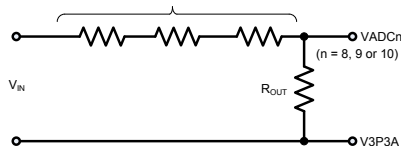
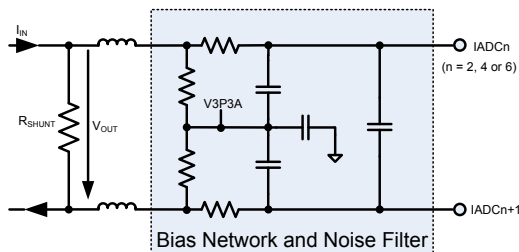
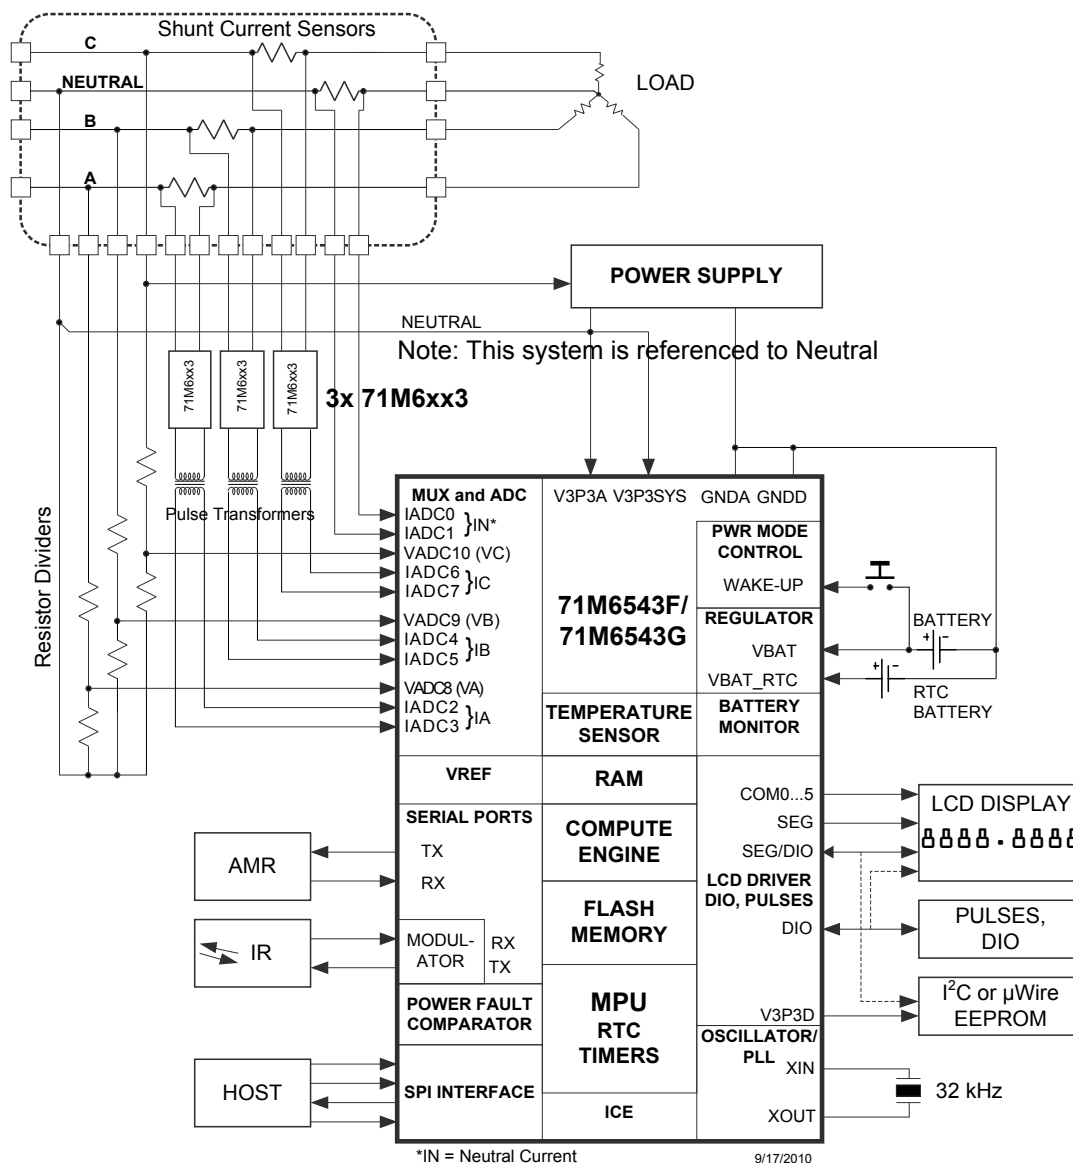
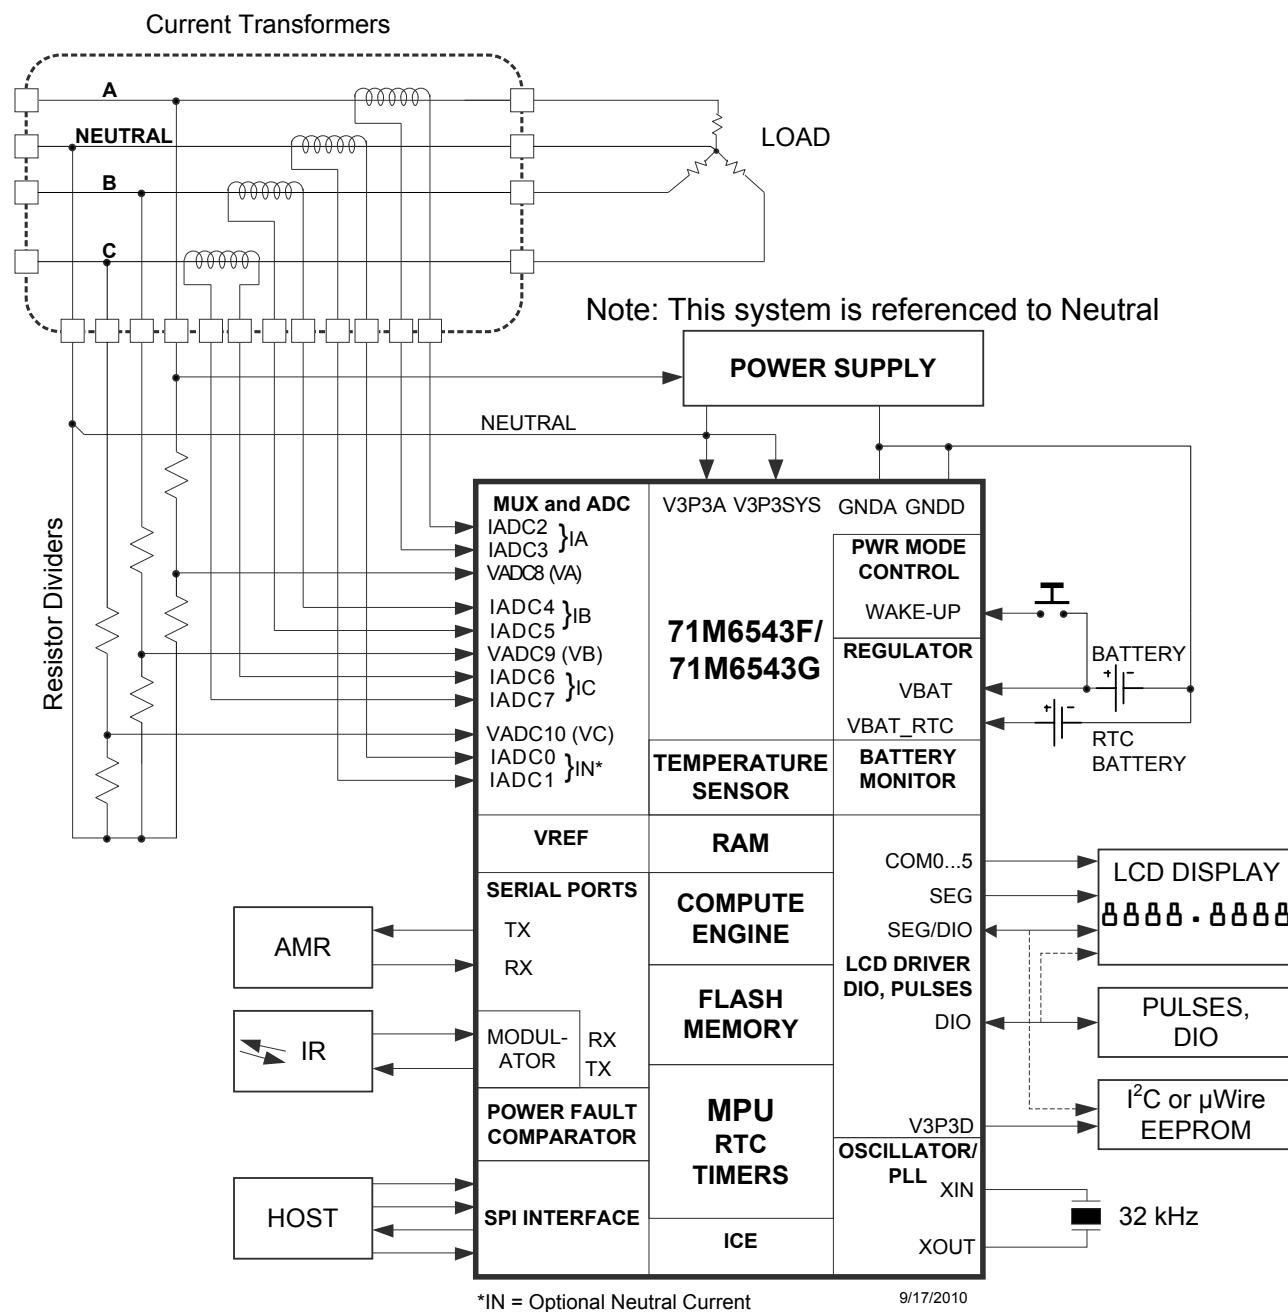

Figure 27: Resistive Voltage Divider (Voltage Sensing)
Figure 30: Differential Resistive Shunt Connections (Current Sensing)
Figure 31: System Using Three-Remotes and One-Local (Neutral) Sensor
Figure 32. System Using Current Transformers
Figure 27 through Figure 30 show voltage-sensing resistive dividers, current-sensing current transformers (CTs) and current-sensing resistive shunts and how they are connected to the voltage and current inputs of the 71M6543. All input signals to the 71M6543 sensor inputs are voltage signals providing a scaled representation of either a sensed voltage or current.
Figure 31 shows a typical connection for current shunt sensors; using the 71M6xx3 (polyphase) isolated sensors. Note that one shunt current sensor is connected without isolation, which is the neutral current sensor in this example (connected to pins IADC0-IADC1). Each 71M6xx3 device is electrically isolated by a low-cost pulse transformer. The 71M6543 current sensor inputs must be configured for remote sensor communications, as described in 2.2.8 71M6xx3 Isolated Sensor Interface (page 22). Flexible remapping using the I/O RAM registers $MUXn_SEL[3:0]$ allows the sequence of analog input pins to be different from the standard configuration (a corresponding CE code must be used). See Figure 2 for the AFE configuration corresponding to Figure 31.
Figure 32 shows a polyphase system using four current transformers to support optional Neutral current sensing for anti-tamper purposes. The Neutral current sensing CT can be omitted if Neutral current sensing is not required. The system is referenced to Neutral (i.e., the Neutral rail is tied to V3P3A and V3P3SYS).
This section discusses metrology temperature compensation for the meter designs where current shunt sensors are used in conjunction with the 71M6xx3 remote isolated sensors, as shown in Figure 31.
Referring to Figure 31, the VADC8 (VA), VADC9 (VB) and VADC10 (VC) voltage sensors are always directly connected to the 71M6543. Thus, the precision of the voltage sensors is primarily affected by VREF in the 71M6543. The temperature coefficient of the resistors used to implement the voltage dividers for the voltage sensors (see Figure 27) determine the behavior of the voltage division ratio with respect to temperature. It is recommended to use resistors with low temperature coefficients, while forming the entire voltage divider using resistors belonging to the same technology family, in order to minimize the temperature dependency of the voltage division ratio. The resistors must also have suitable voltage ratings.
Table 66 shows the five *GAIN_ADJx* equation output storage locations and the voltage or current sensor channels for which they compensate for the 1 Local / 3 Remote configuration shown in Figure 31.
Table 66: GAIN_ADJn Compensation Channels (Figure 2, Figure 31, Table 1)
This section discusses metrology temperature compensation for meter designs where Current Transformer (CT) sensors are used, as shown in Figure 32.
Referring to Figure 32, the VADC8 (VA), VADC9 (VB) and VADC10 (VC) voltage sensors are directly connected to the 71M6543. Thus, the precision of the voltage sensors is primarily affected by VREF in the 71M6543. The temperature coefficient of the resistors used to implement the voltage dividers for the voltage sensors (see Figure 27) determine the behavior of the voltage division ratio with respect to temperature. It is recommended to use resistors with low temperature coefficients, while forming the entire voltage divider using resistors belonging to the same technology family, in order to minimize the temperature dependency of the voltage division ratio. The resistors must also have suitable voltage ratings.
Table 67: $GAIN_ADJx$ Compensation Channels (Figure 3, Figure 32, Table 2)